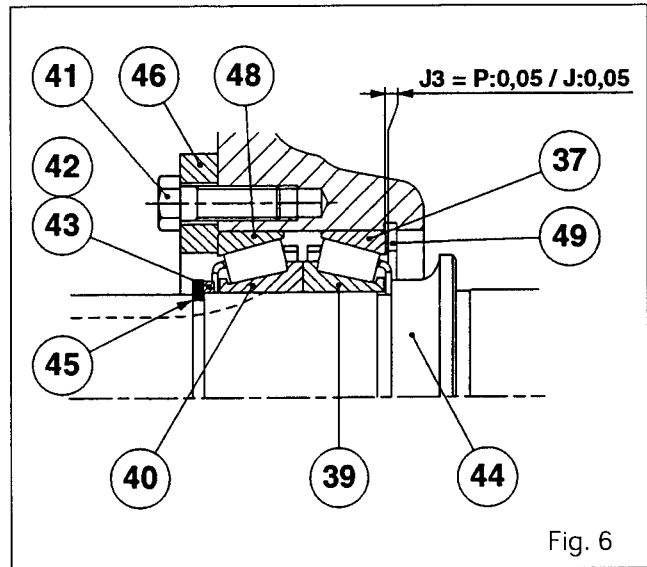

Fig. 6
27. If the end play measured is greater than 0.05 mm, determine the thickness of circlip (49) required to obtain **J3** (Fig. 6).
28. Remove the circlip (45).
29. Remove the packing shim (43) and the adjusting shims (42).
30. Remove the bolts (41) and the locking ring (46).
31. Remove cup (48), cones (40) and (39), keeping the cups and cones in pairs, cup (37), the circlip (49) and the shaft (44).